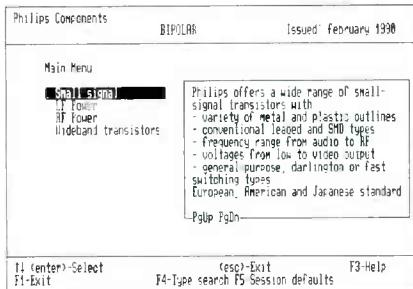

FIG. 1—THE MAIN MENU from Philips Components' Discrete Semiconductors Transistors data disk.
Following Fig. 1, mount the following components on the solder side (back side) of the PC board: R42, R52, R54, D7-D9, D20-D29, and all E-terminals (they are basically solder posts that allow you to solder heavy-gauge wire to the PC board). Those components are mounted on the solder side in order to create more space for the other components. It is probably a good idea to add a  $\frac{1}{8}$ -inch piece of sleeving insulation to the leads of those components before assembly (with the exception of the E-terminals). That will prevent any accidental shorting of the exposed component leads. After they are installed, trim the component leads. Now install the remaining parts on the component side with the exception of the power MOSFET's.
**FIG. 1—PARTS PLACEMENT DIAGRAM** for the power board. Remember that several components must be mounted on the solder side of the board to leave room for the other components (see text).